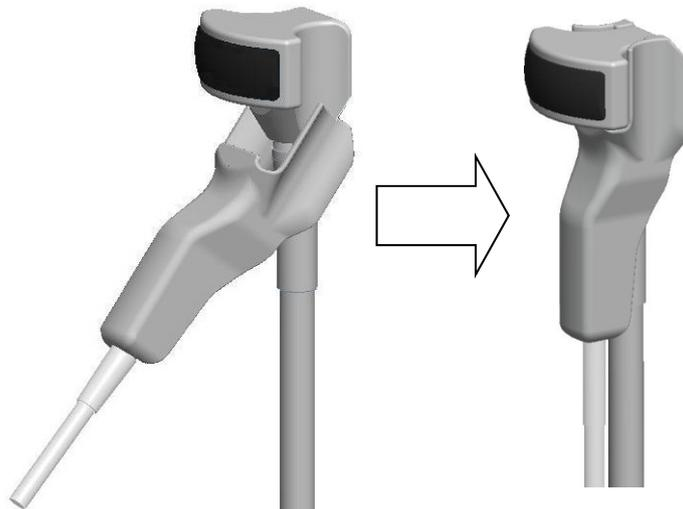

Fig.10 How to attach the Magnetic sensor attachment
b) Attach the Magnetic sensor attachment to the probe as shown in Fig.10.